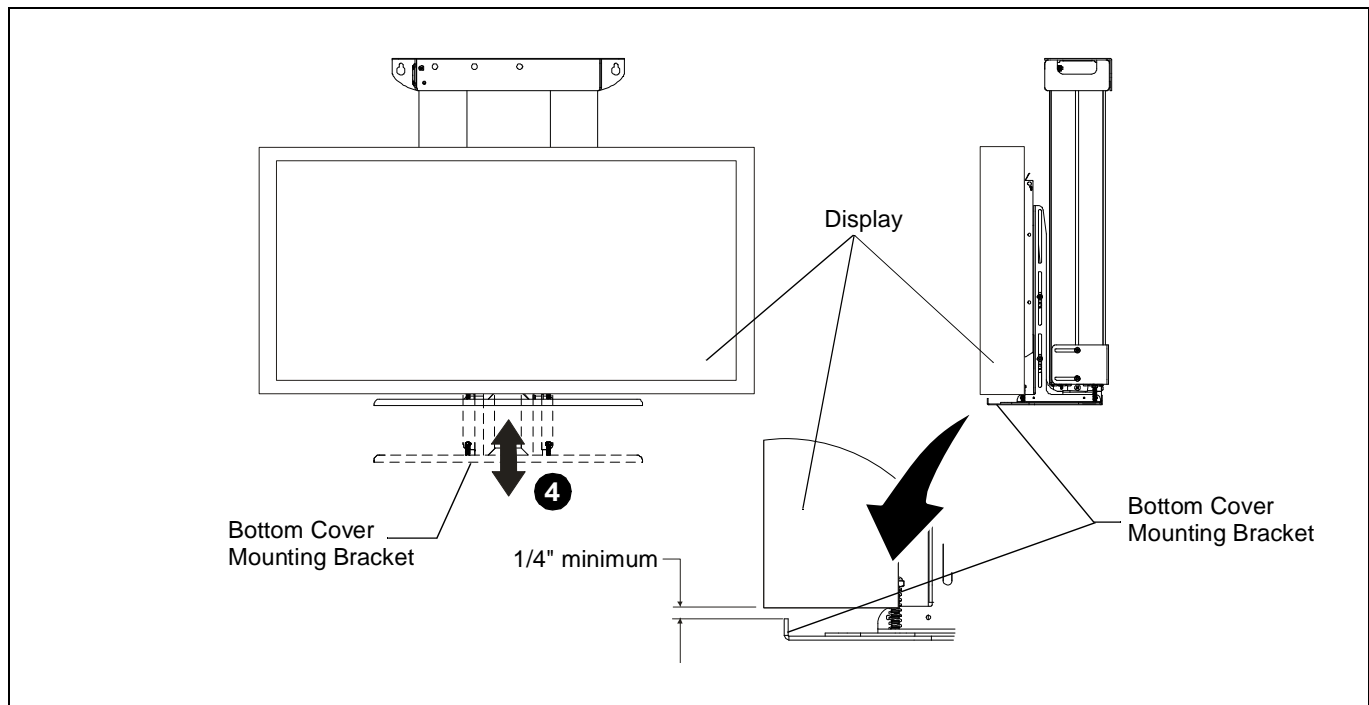

**Figure 19**
2. While supporting both sides of display, align four mounting buttons on display or interface bracket with four mounting holes in faceplate. (See figure 18) and (See figure 19)
3. Lower display into place listening for audible "click" to ensure recessed area of mounting buttons are properly seated in lower area of mounting holes and "click lock" mechanism has engaged. (See figure 18) and (See figure 19)
**NOTE:** Holes are provided in the faceplate for use with a padlock or similar locking device, if desired. In addition, the pin and nut may be removed from the upper holes and moved to the lower holes for use as a more permanent locking device. (See figure 19)